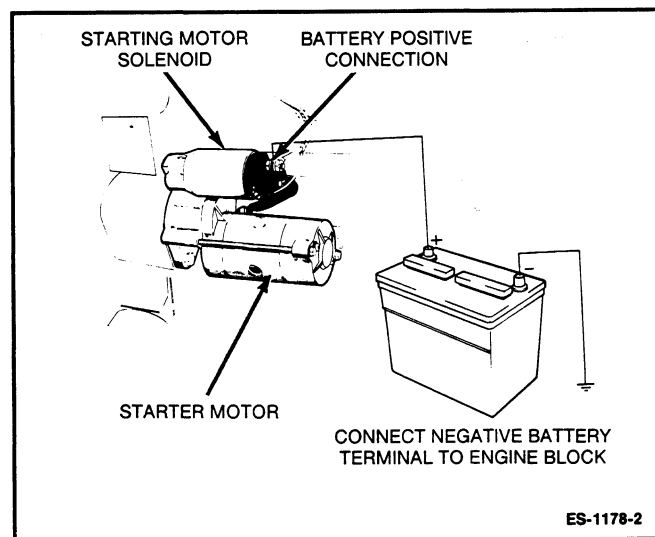

FIGURE 4-4. BATTERY CONNECTIONS
**Starting Battery:** Check the terminals on the battery for clean and tight connections. Loose or corroded connections create resistance which can hinder starting. Clean and reconnect the battery cables if loose. Always disconnect both ends of the negative battery cable. Reconnect one end of the cable to the negative battery terminal and the other end to ground. This will make sure that any arcing will be away from the battery and less likely to ignite explosive battery gases (See Figure 4-4).